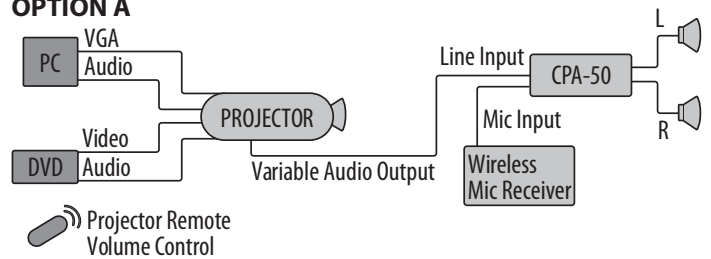

Figure 1
**?** If you are connecting the sound sources directly to the projector, follow the suggested Option A wiring diagram (Figure 1) for reference.